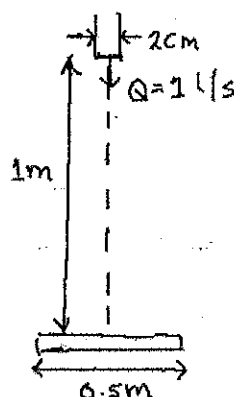

Figure 4
4) A steady jet of water (density 1000 kg/m^3) is discharged vertically downward through a pipe of diameter 2 cm as shown in Figure 4. The discharge of the jet is 1 litre/second. The end of the pipe is 1 m above the centre of a flat disk of diameter 0.5 m as shown in the figure.